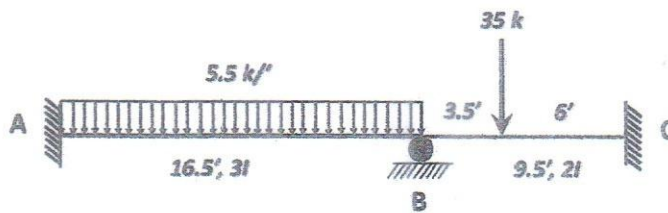

Figure: 1
1. Determine support moments and reactions for the beam presented in Figure 1. (37.5)